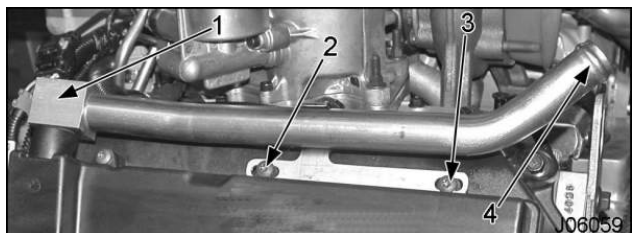

Figure 4 Breather Outlet
10. Carefully remove the breather outlet steel tube (Item 2) and the breather outlet elbow (Figure 4, Item 1) from the breather cover outlet by turning the breather outlet steel tube and breather outlet elbow 90 degrees and pulling the two parts apart. Discard the breather outlet steel tube and breather outlet elbow.
4. Carefully remove the breather outlet steel tube (Item 2) and breather outlet elbow (Figure 4, Item 1) from the breather outlet by turning the steel tube 90 degrees and pulling the two parts apart. Discard the steel tube.